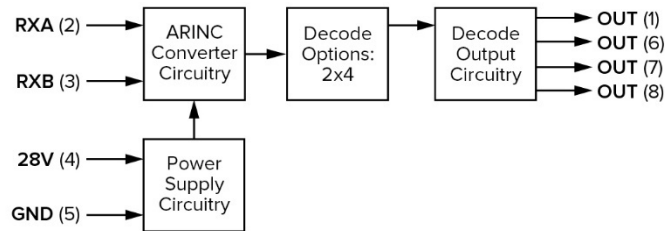

FIGURE 31. SR429/4D 2x4 Series-N or Series-R.
**3 X 8 Decoder:** unit provides a binary decode of two ARINC 429 data bits converted into eight output signals, each corresponding to a single binary decode permutation (i.e. 000,001, ..., 111). The 3 X 8 Decoder can be configured as a Series-R (12 Pin) device as shown in Figure 31. The 3 x 8 Binary Decoder can be supplemented by replacing certain binary decoder outputs with options that include 1) a specific decode of individual ARINC 429 bits, 2) Health Monitor (H) and 3) Watchdog (W).